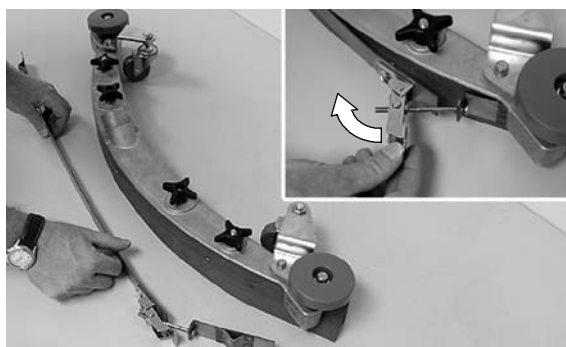

FIG. 50
- Loosen the band clamp and remove the band from the squeegee assembly (Figure 50).